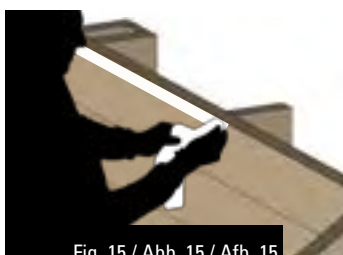

Fig. 15 / Abb. 15 / Afb. 15
- Stick the two-faced adhesive tape panel by panel, aligning it with the upper part of the top boards (figure 15).